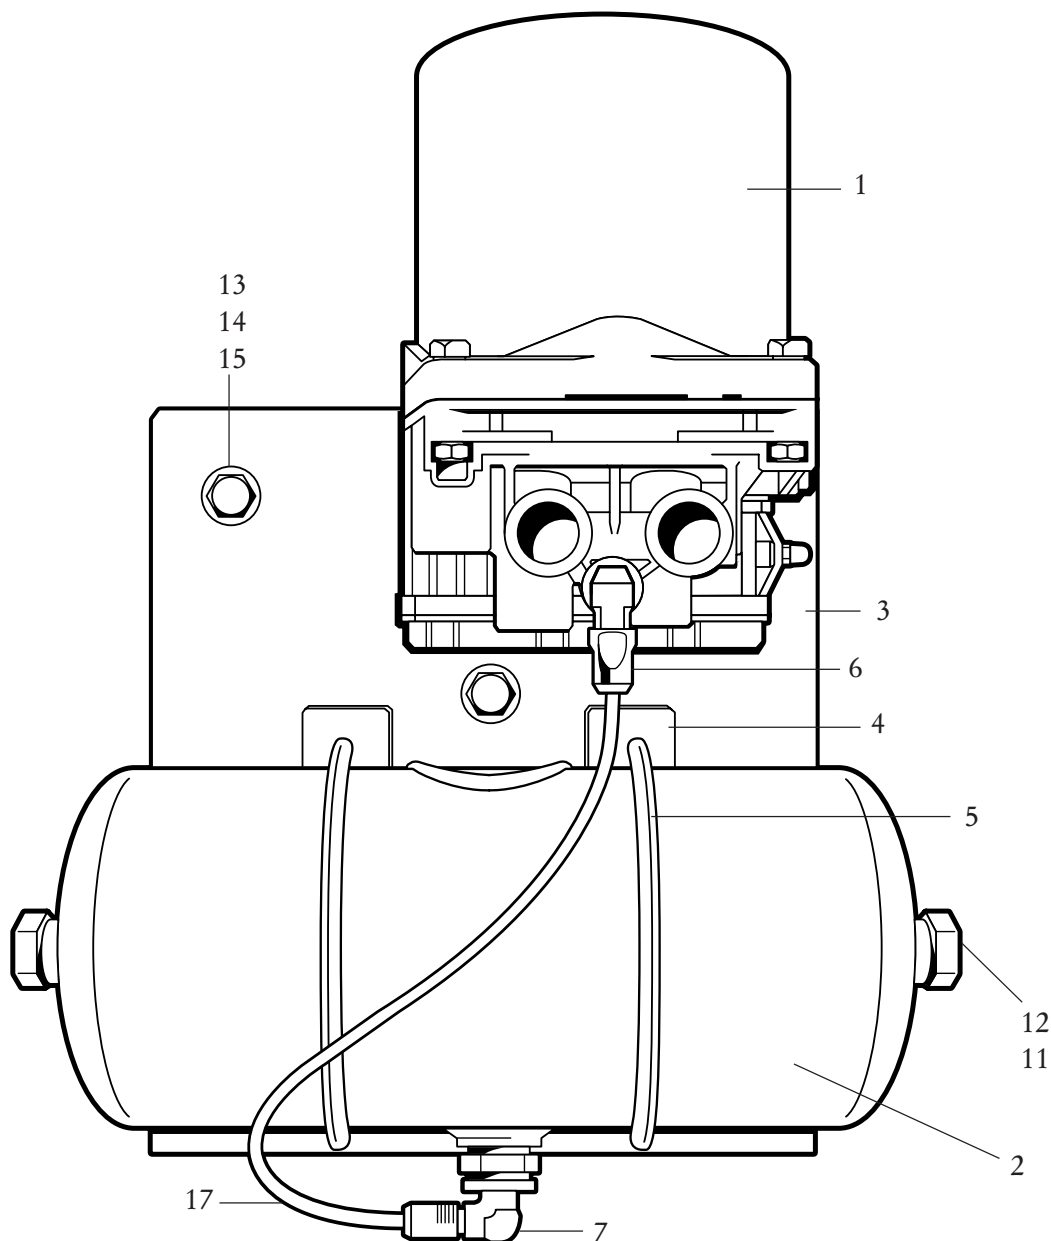
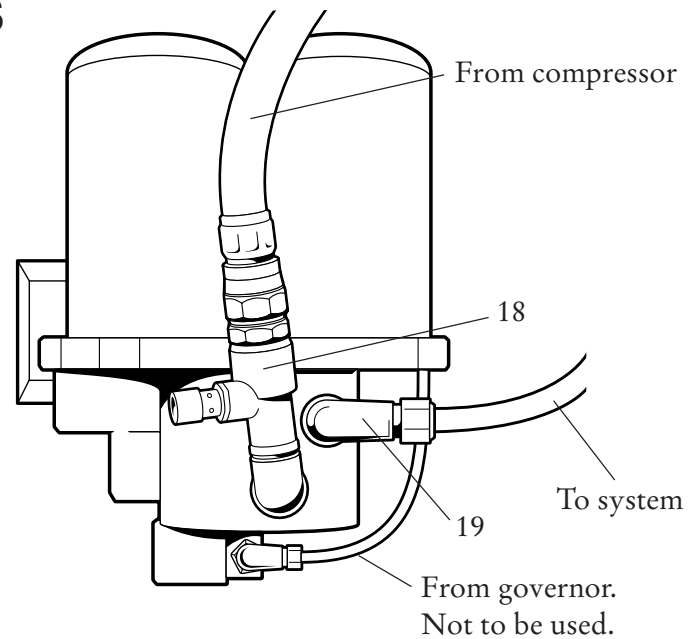

Fig 1
Fig 2
Dismantle air connectors (18) and (19) from the air drier, (these are to be used in the new air drier). Fig 2.
For numbers in () in the text which do not appear in this section refer to Fig 1 and/or Fig 2.